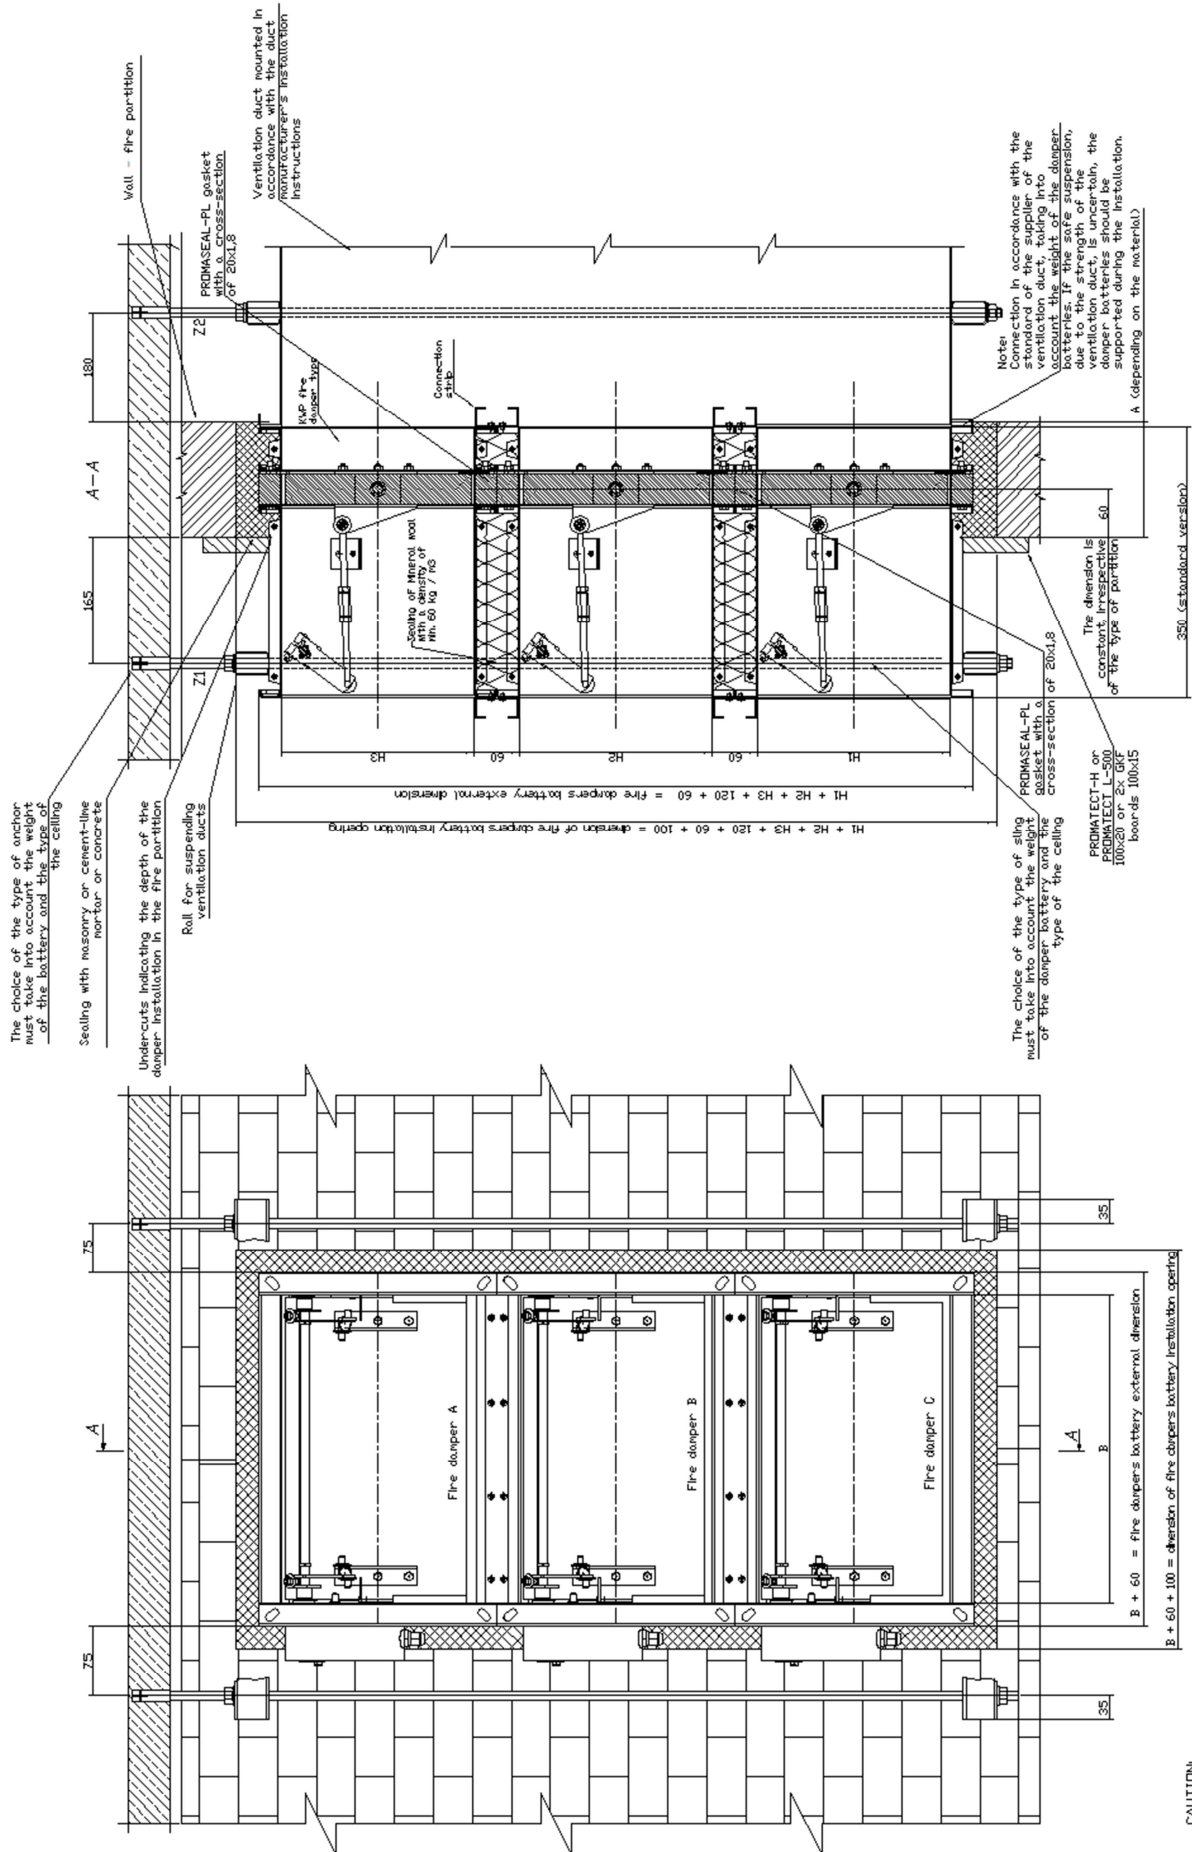

Figure 18. Installation of a battery consisting of three fire dampers KWP in vertical arrangement in wall
- For battery consisting of four KWP fire:  $(B1+B2+180) \times (H1+H2+180)$  (Figure 18),